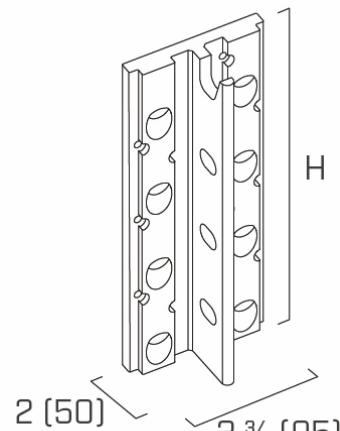

FIGURE 4—ALUMEGA HVG CONNECTOR
3.1.3 ALUMEGA HVG: The ALUMEGA HVG connector flange has a single row of holes on each side of the stem. These holes are countersunk at a 45 degree angle and are spaced $2\frac{3}{8}$ inches (60 mm) on center. The flange also has $\frac{3}{16}$ -inch-round (5 mm) holes for positioning screws. The stem has horizontal oblong holes spaced $2\frac{3}{8}$ inches (60 mm) on center. The primary fasteners are screws installed at a 45 degree angle to the face of the wood, without the use of a washer. See Figure 4 for a representative image of the connector.
¹See Figures 4 through 6 for depictions of the connectors. The 'B' dimension is 3 3/4 inches (95 mm) and the 'P' dimension is 1 15/16 inches (49 mm), except for the JS connector, where the 'B' dimension is 2 11/16 inches (68 mm).